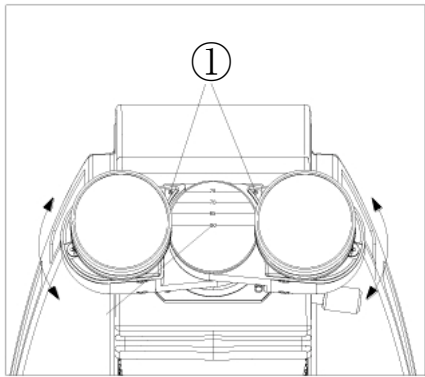

Fig. 7
Where “.” ① on the eyepiece tube lines up, then that is the number for the interpupillary distance. Range: 50~75mm. (Fig. 7).